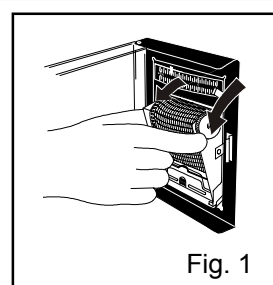

Fig. 1
1. Open the door and let down the lever of the penholder; the pen point is apart from the recording paper. (Fig. 1)
1. Remove 4 screws of the communication box hole cover in the control panel. (Fig. 1)